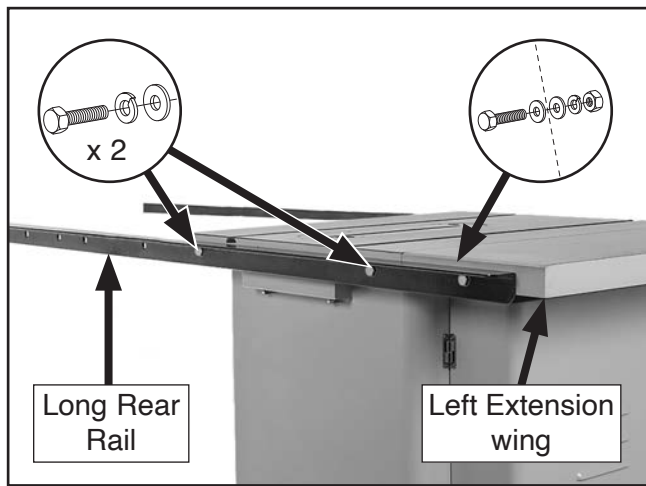

Figure 20. Long rear rail attached to saw table and left extension wing.
5. Attach long rear rail to saw table with (2) M10-1.5 x 25 hex bolts, 10mm lock washers, and 10mm flat washers from G0899 inventory (see **Figure 20**). Hand-tighten fasteners for now.
6. Attach long rear rail to left extension wing with (1) M10-1.5 x 35 hex bolt, (2) 10mm flat washers, (1) 10mm lock washer, and (1) M10-1.5 hex nut from G0899 inventory (see **Figure 20**). Hand-tighten fasteners for now.